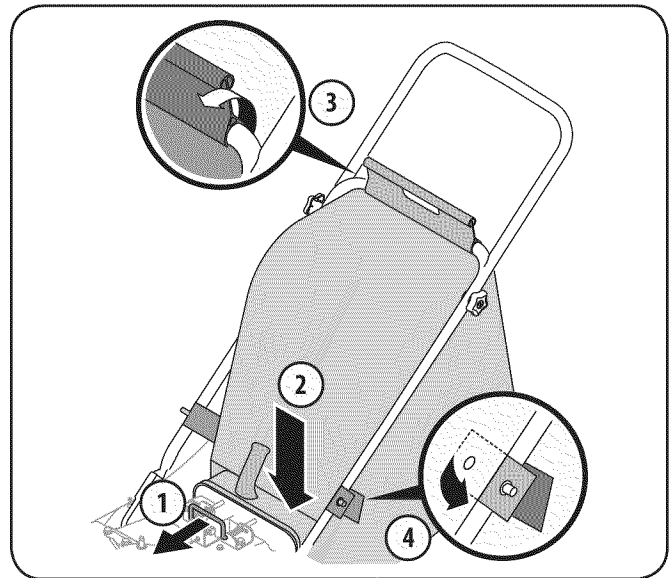

Figure 3-4
1. Grasp bag handle with one hand and slide locking rod on mounting bracket with other hand toward engine. Use the end of mounting bracket as leverage when sliding the locking rod. See Fig. 3-4.
4. Place the lower straps on the bag over the top of lower handle, hooking them on the studs. See Fig. 3-4.